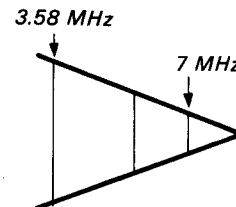

Fig. 9-12. Playback frequency characteristics adjustment
- 1) Adjust with RV003 [RV004] on the RP-34 board so that peak appears in the envelope of the RF waveform. (See Fig. 9-12. b))
- 2) Adjust with RV003 [RV004] on the RP-34 board so that the peak of the RF waveform envelope becomes small and the waveform from 3.58 MHz to 7 MHz section becomes almost a straight line. (See Fig. 9-12. c))